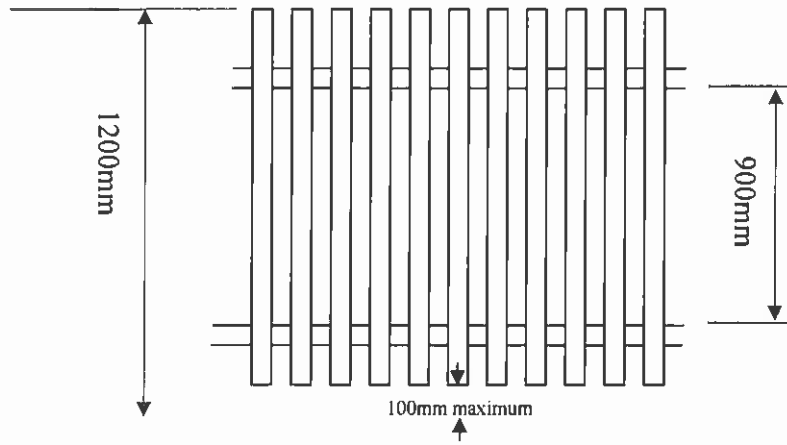

Figure 2
- All support rails, wires, etc. - inside the fence (Figure 2).